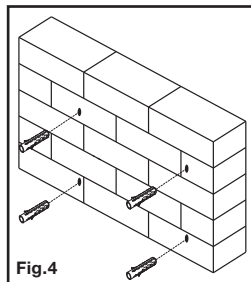

Fig.4
4. Insert a Concrete Anchor (C) into each hole so that it is flush with the concrete surface (see Fig. 4). A hammer can be used to lightly tap the anchors into place if necessary.